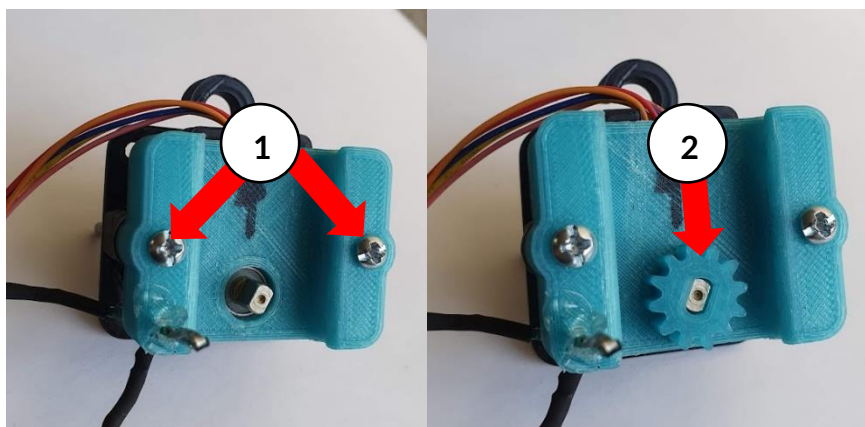

Figure 31- Bolted to Base (1) and Engaged Gear (2)
14. Screw the union to the motor base (1) and place the gear to the motor (2) shown in Figure 31.